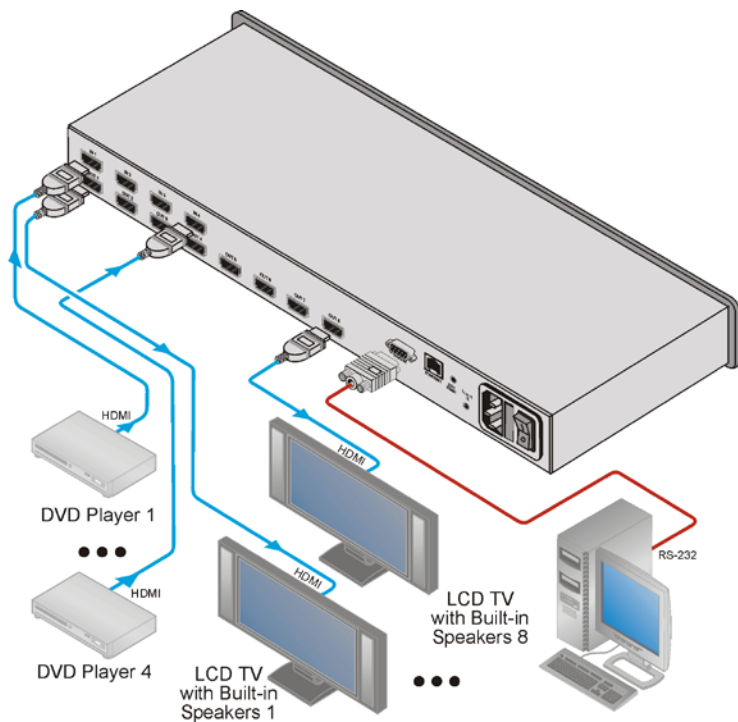

Figure 3: Connecting the VS-48HN 4x8 HDMI Matrix Switcher
To connect the **VS-48HN 4x8 HDMI Matrix Switcher** as illustrated in the example in Figure 3:
4. Connect the device to the mains electricity (not shown in Figure 3).